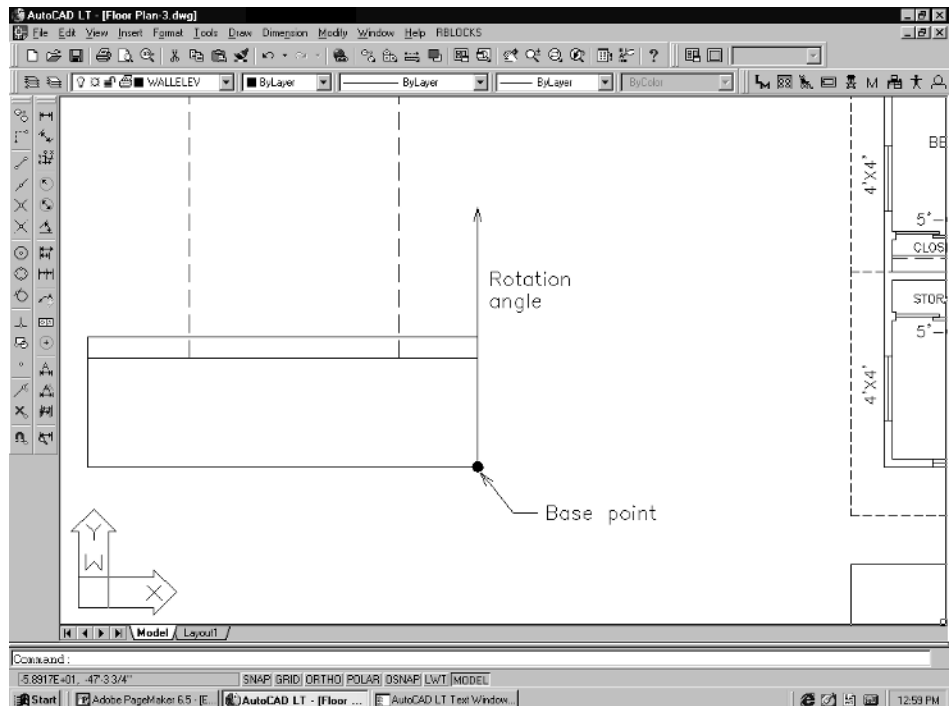

Figure 4-40
- Now, rotate the elevation 90 degrees, using the corner point shown in Figure 4-40 as the base point. Pull the cursor up for the rotation angle.